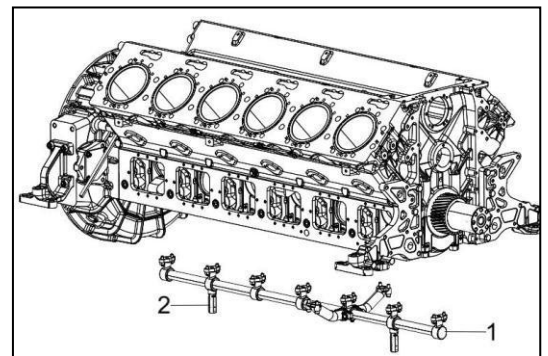

Figure 103
7. Remove the oil pipeline group (Figure 103, 1) and disassemble the oil pressure limiting valve (Figure 103, 2) if necessary.